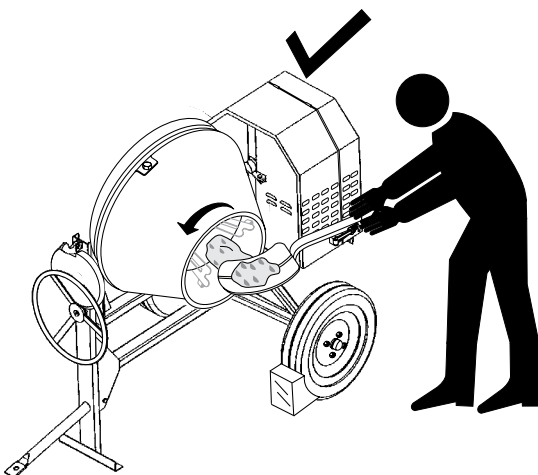

Figure 14. Filling Mixing Drum
2. As the drum rotates, use a shovel (Figure 14) to place the cement mix inside the drum, add water as required. Be careful to only place the **tip** of the shovel inside the drum.